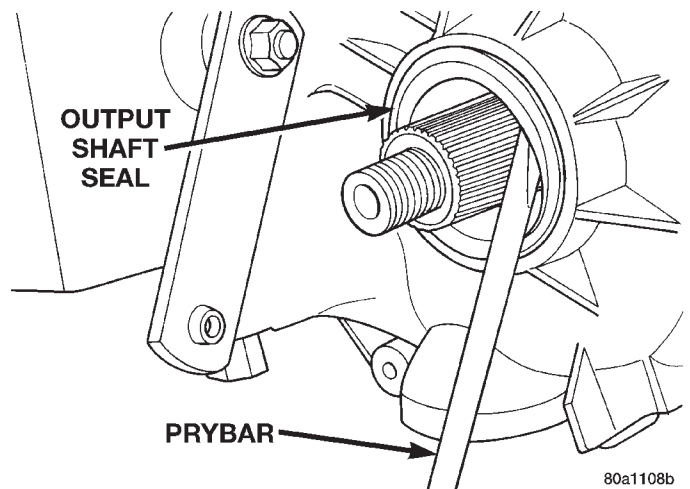

Fig. 9 Remove Front Output Shaft Seal
(1) Raise vehicle on hoist.
(2) Remove front propeller shaft. Refer to Group 3, Differential and Driveline, for proper procedure.
(3) Remove front output shaft companion shaft.
(4) Remove seal from front case with pry tool (Fig. 9).